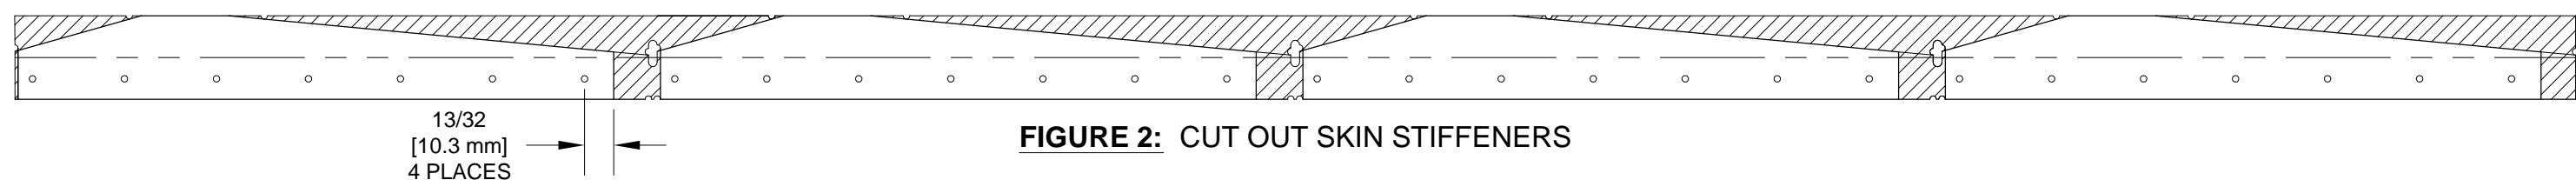

FIGURE 2: CUT OUT SKIN STIFFENERS
Step 5: Final-Drill #40 all the .094 [2.4 mm] holes in the A-710 Stiffeners. Cut the stiffeners from the angle strip provided and trim as shown in Figure 2. The angle strip is shown unbent for clarity.